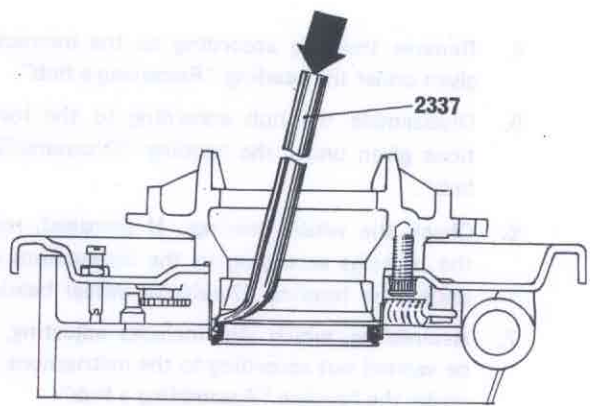

Fig. 77-10. Removing the outer sealing ring
3. Knock out the outer sealing ring with drift 2337, see Fig. 77-10.
2. Knock out the outer sealing ring with drift 2337, see Fig. 77-10.